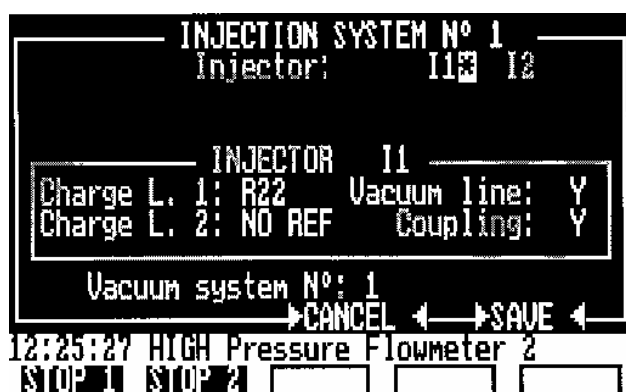

Figure 7.4 Set Injection Systems window
Used conventions to display fillers (I1 and I2 in figure 7.4) are the following:
- * Refrigerant fluid used in the charging line 1, if it is present (*Charge L 1: R22* in figure 7.4).
- * Refrigerant fluid used in the charging line 2, if it is present (*Charge L 2: NO REF* in figure 7.4).
- * Vacuum line used (*Vacuum line: Y* in figure 7.4).
- * Automatic coupling used (*Coupling: Y* in figure 7.4).